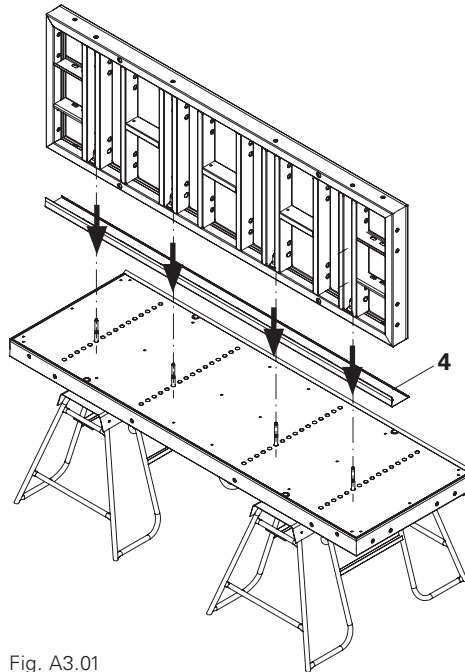

Fig. A3.01
1. Attach chamfer strip (4) to the front side.
2. Place second column panel (1) onto the first column panel (1). (Fig. A3.01)
2. Place second column panel onto the first column panel. (Fig. A3.01)